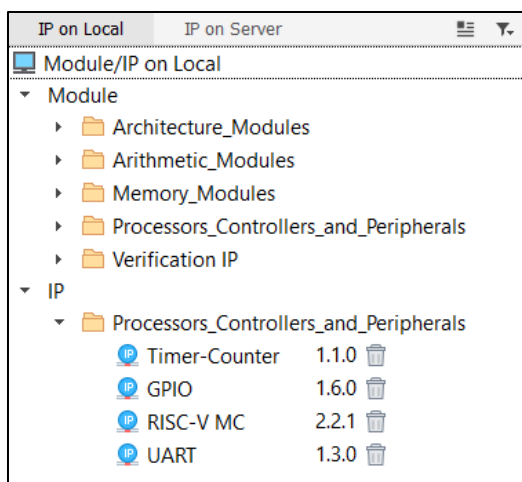

Figure 3.10. Downloaded and Installed IPs
3. After installing all the IPs, select the **IP on Local** tab. The IPs are listed under the IP section, as shown in Figure 3.10.